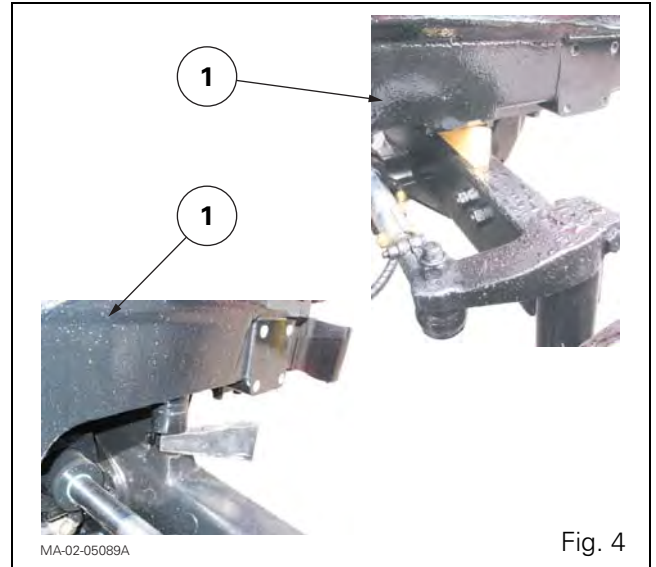

Fig. 4
- by inserting a suitable wooden block on either side of the frame (1) as shown in Fig. 4.